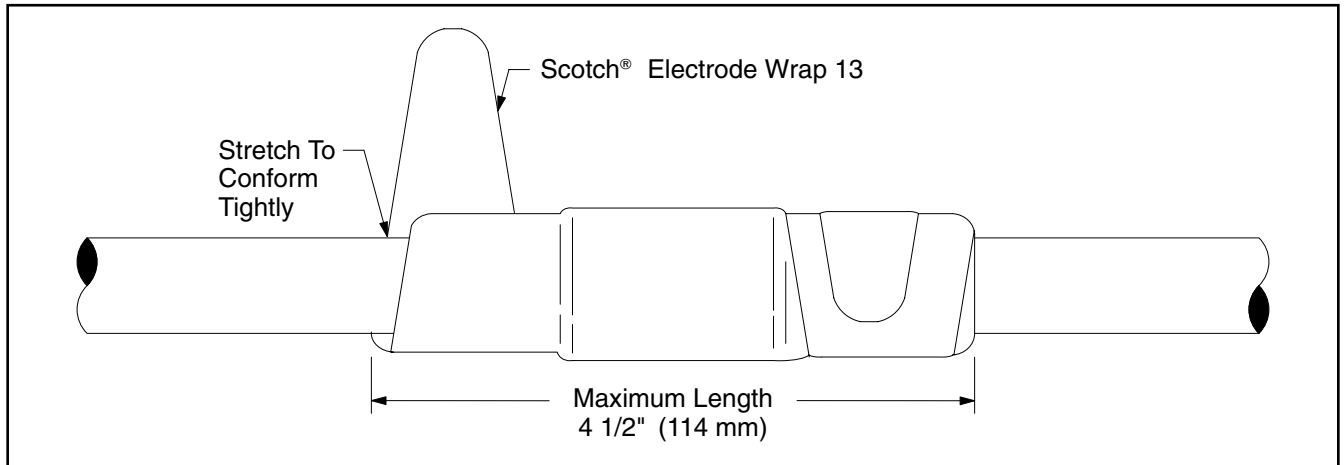

Figure 9
5.2 Individually wrap each leg of Scotch® Electrode Wrap 13 over area at ends of connector and cable insulation. Apply with adequate tension so legs conform tightly onto cable insulation (*Figure 9*).